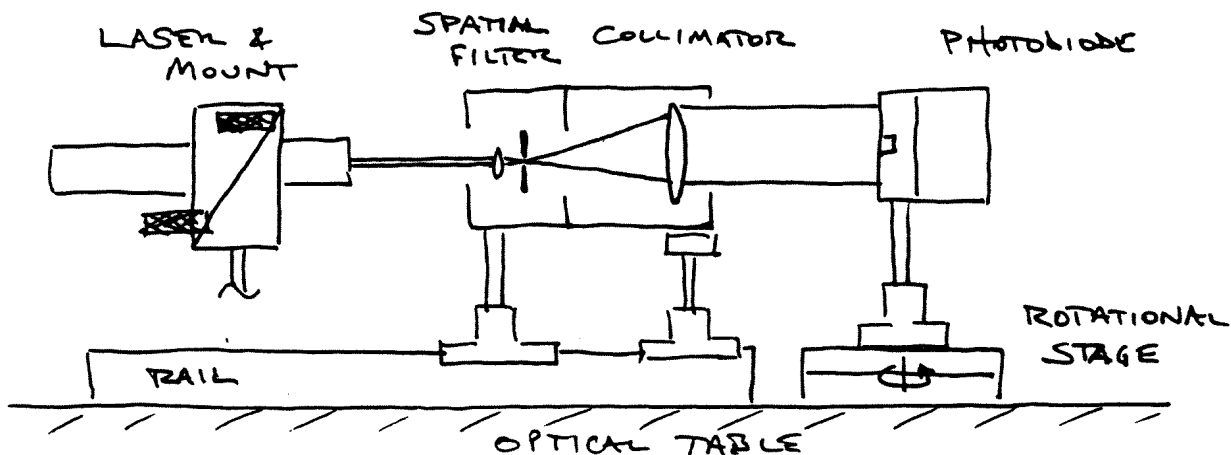

Figure 2: Experimental setup for Part B.
**Laser Collimator.** This is a lens system which attaches to the output end of the spatial filter, and converts the diverging beam to a parallel beam. You can remove the collimator from the second wooden box and attach it to the spatial filter. If the weight of the collimator causes problems when supported only by the post at the input end of the spatial filter, the V-groove lower section of a 50 mm filter holder (with the rods removed; the instructor will provide you a wrench for the two Allen setscrews) can be used to add support beneath the output end of the laser collimator. Your setup should look more or less like Figure 2.